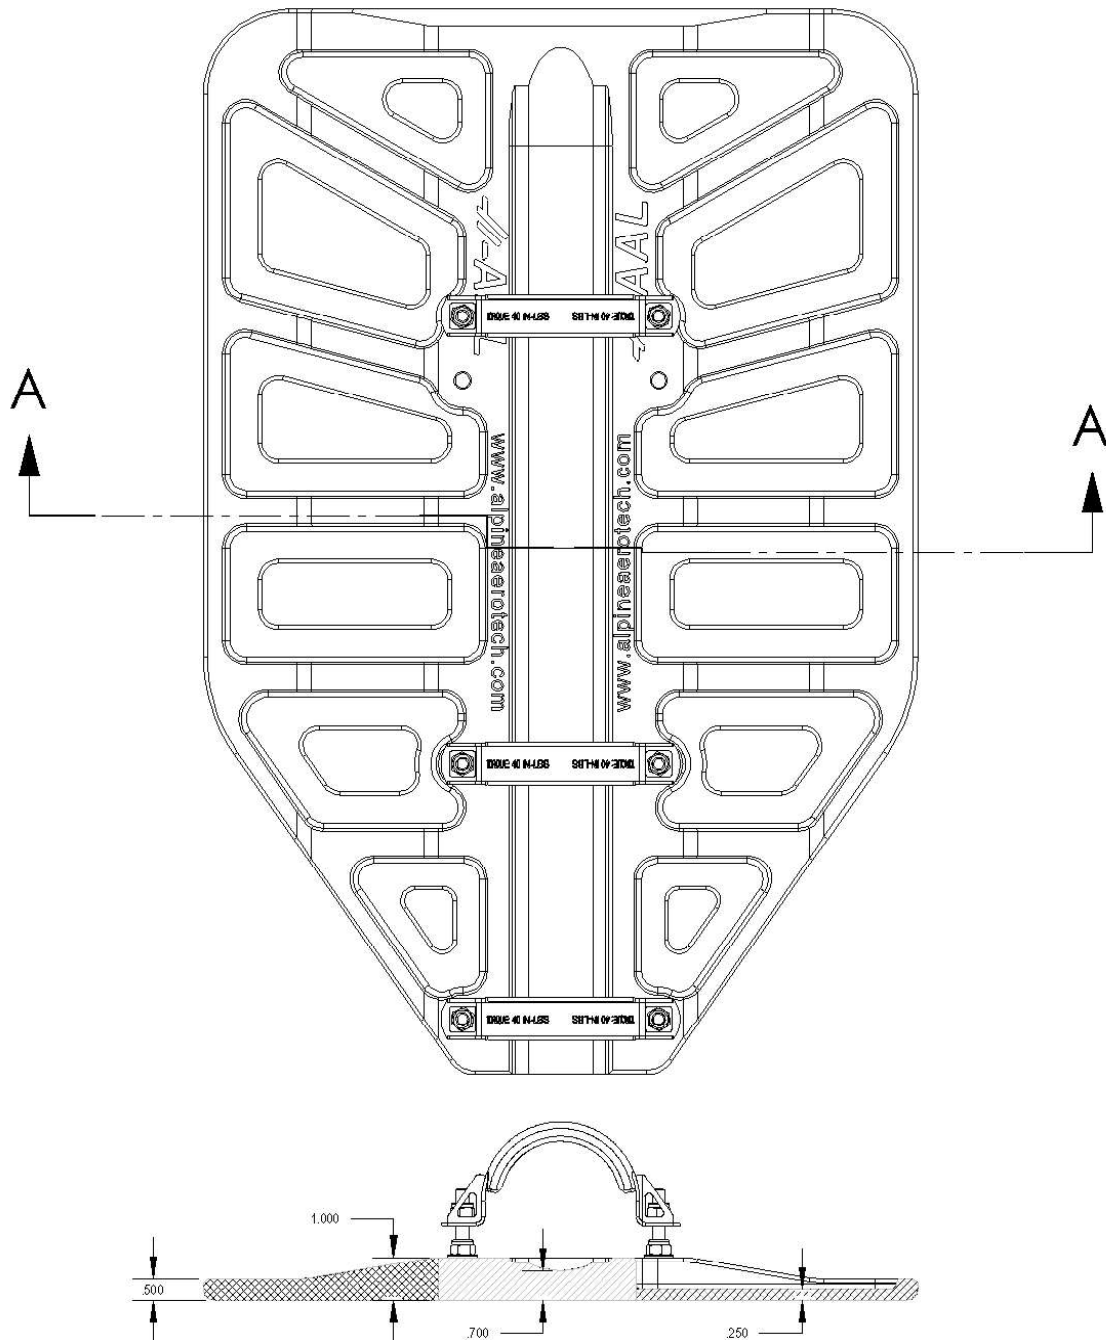

Figure 1
- v. In the shaded regions  ,  of Figure 1 the Bear Paw may be worn to a maximum depth of 0.100 from the nominal dimensions shown.
- vi. In the shaded  region of Figure 1, it is acceptable to have damaged areas up to a maximum depth of 0.100 over a maximum area of 2 sq. in. Damage includes but not limited to deep scratches, gouges and deformed areas. Superficial surface scratches are permitted on all surfaces.
- viii. Cracks are acceptable in the shaded  portion of Figure 1 as long as they are restricted to the pockets of the bear paws, and do not exceed 0.50 long. Cracks that penetrate the stiffening ribs of the same area are unacceptable. Stop drill all cracks up to 0.50 long with $\varnothing 0.188$ drill.
- ix. Inspect item 7 Strap, Assy for damage to its respective components:
- a. Inspect item 7, Strap, Assy for cracks and hole elongation. If cracks are detected, or holes are elongated more than 0.025, replace the Strap, Assy (Item 8) immediately.